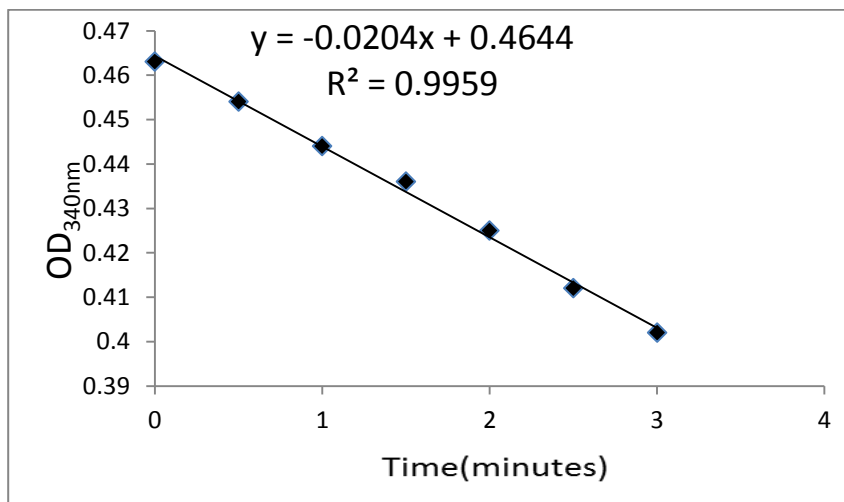

Figure.1 Absorbance change of diluted GPDH positive control at 340nm.
Diluted GPDH positive control is measured with the GPDH Assay kit after different time of reaction (Figure 1 and 2). The detection limitation is from 0.00675 to 0.108 U/mL.
2. Add 90 μL of working reagent mix into each well of the 96-well plate containing diluted GPDH positive control, samples and blank, mix well immediately and start recording $\text{OD}_{340\text{nm}}$ over a 3 minutes interval, collecting data every 0.5 min. Figure 1 shows data of GPDH positive control.